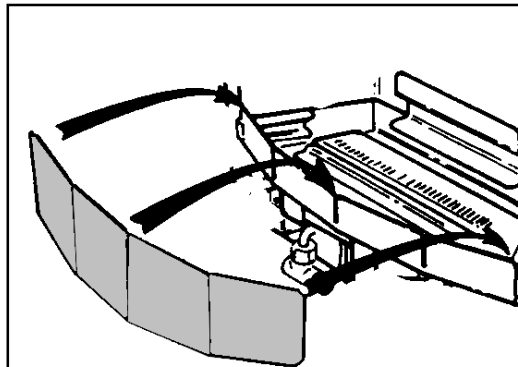

Figure 11 Burner Tray Trim
2. Fit the burner tray trim over the front rim of the burner tray. Push the trim fully down. See figure 11.